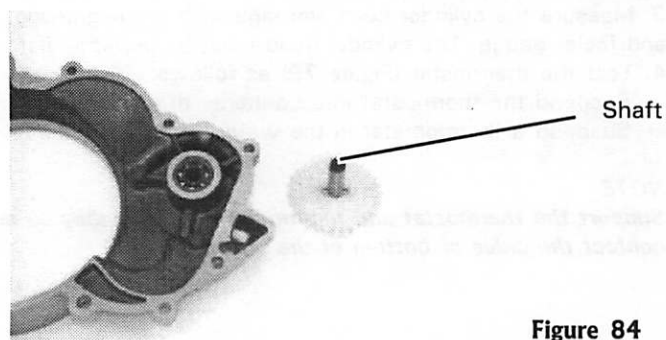

Figure 84
5. Install the peg into the pump shaft then install the peg into the slot in the pump gear (Figure 84).